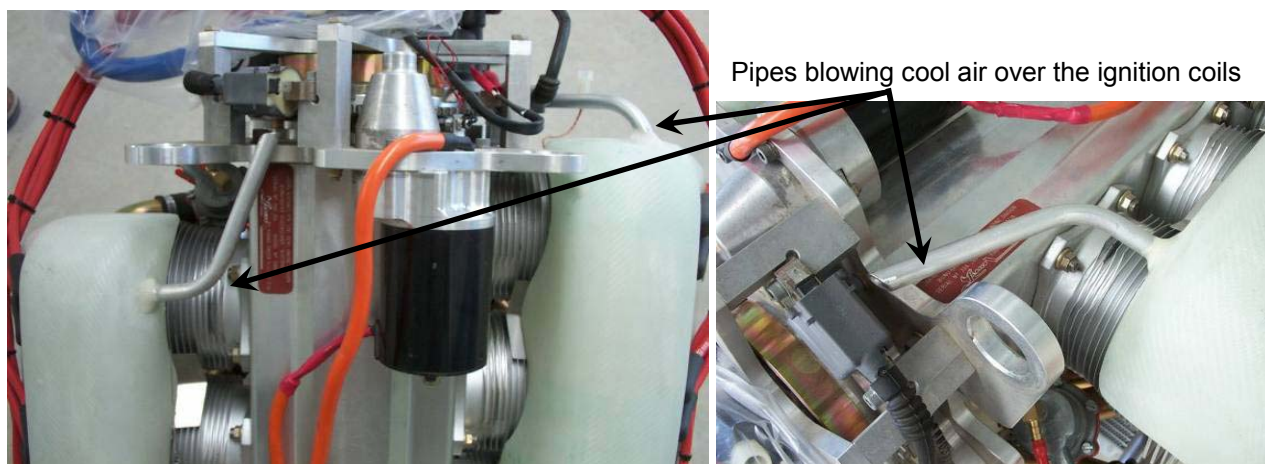

Figure 47. Coil Cooling Detail
- Tubes of approximately 12mm diameter are required to provide cooling air to the ignition coils - Figure 47.